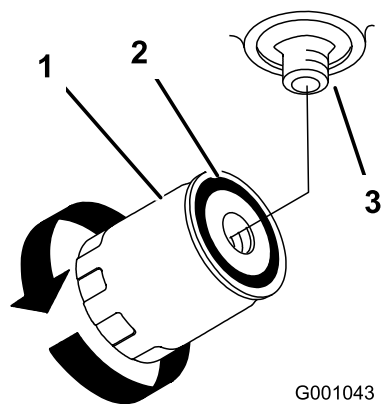

Figure 60
4. Locate filter under engine base and place drain pan under filter (Figure 60).
5. Remove the old filter and wipe the filter adapter gasket surface clean (Figure 60).
9. When the hydraulic filter is full, turn the oil filter clockwise until the rubber gasket contacts the filter adapter, then tighten the filter an additional 1/2 turn (Figure 60).